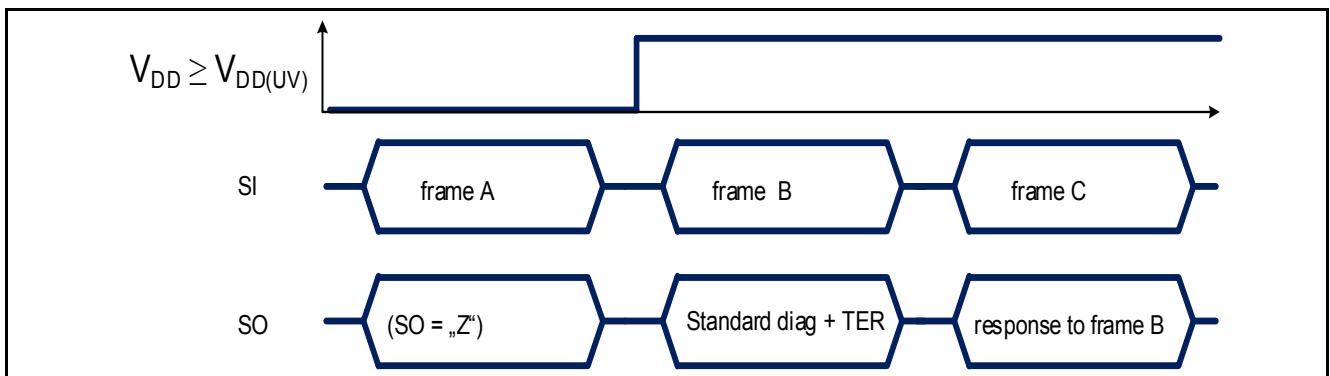

Figure 46 TLD5541-1 response after coming out of Power-On reset at V_{DD}
- when TLD5541-1 logic supply comes out of an Undervoltage reset condition ($V_{\text{DD}} < V_{\text{DD(UV)}}$) as shown in Figure 46 or $V_{\text{EN/INUVLO}} < V_{\text{EN/INUVLOth}}$)